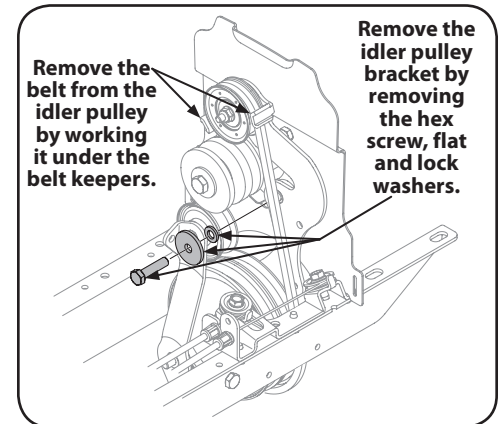

Figure 5-6
5. Remove the idler pulley bracket by removing the ⅜-24 hex screw, flat washer and lock washer, as in Figure 5-6.